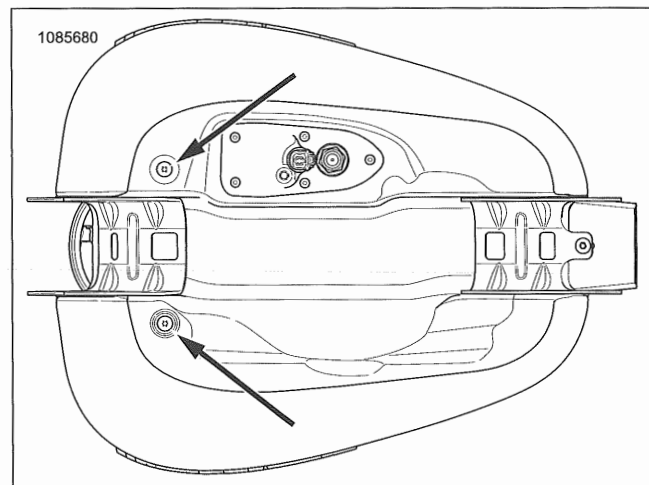

Figure 6-17. Vent Screws
1. See Figure 6-17. Install **new** screws. Tighten.